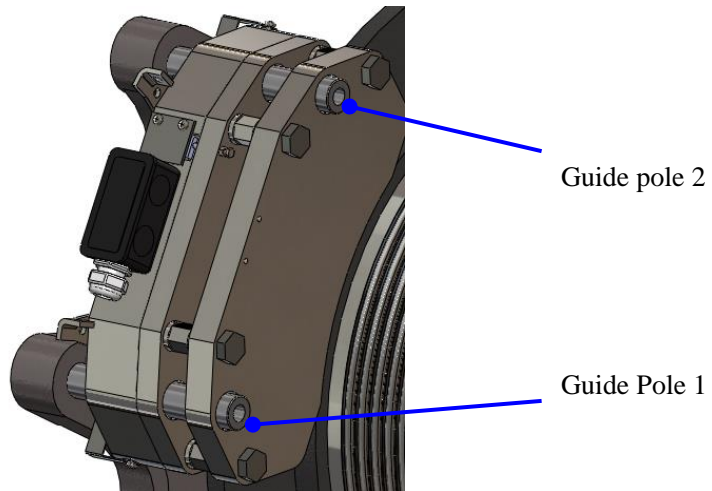

Figure 39: Guide pole installation
2. Clean the Guide pole 1 and 2, then install them in the brake assembly tapping with a hammer, then close the brake. See Figure 39.